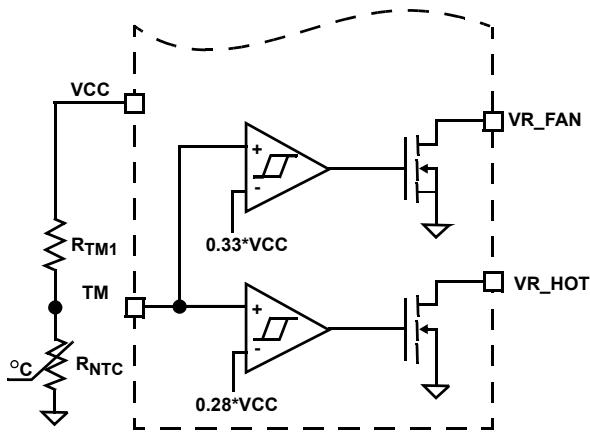
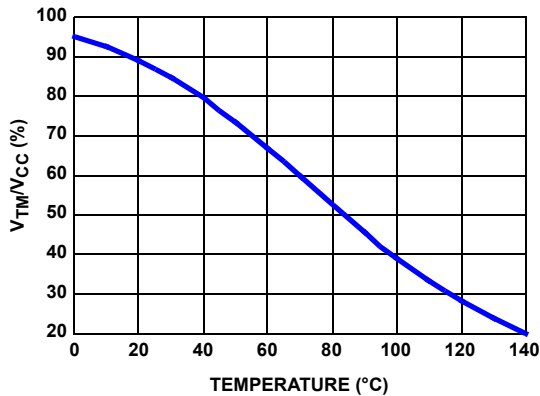

FIGURE 12. BLOCK DIAGRAM OF THERMAL MONITORING FUNCTION
FIGURE 13. THE RATIO OF TM VOLTAGE TO NTC TEMPERATURE WITH RECOMMENDED PARTS
The diagram of thermal monitoring function block is shown in Figure 12. One NTC resistor should be placed close to the power stage of the voltage regulator to sense the operational temperature, and one pull-up resistor is needed to form the voltage divider for TM pin. As the temperature of the power stage increases, the resistance of the NTC will reduce, resulting in the reduced voltage at TM pin. Figure 13 shows the TM voltage over the temperature for a typical design with a recommended 6.8kΩ NTC (P/N: NTHS0805N02N6801 from Vishay) and 1kΩ resistor RTM1. We recommend using those resistors for the accurate temperature compensation.
Based on VCC voltage, ISL6327A converts the TM pin voltage to a 6-bit digital signal for temperature compensation. With the non-linear A/D converter of ISL6327A, TM digital signal is linearly proportional to the NTC temperature. For accurate temperature compensation, the ratio of the TM voltage to the NTC temperature of the practical design should be similar to that in Figure 13.
1. Properly choose the voltage divider for TM pin to match the TM voltage vs temperature curve with the recommended curve in Figure 13.